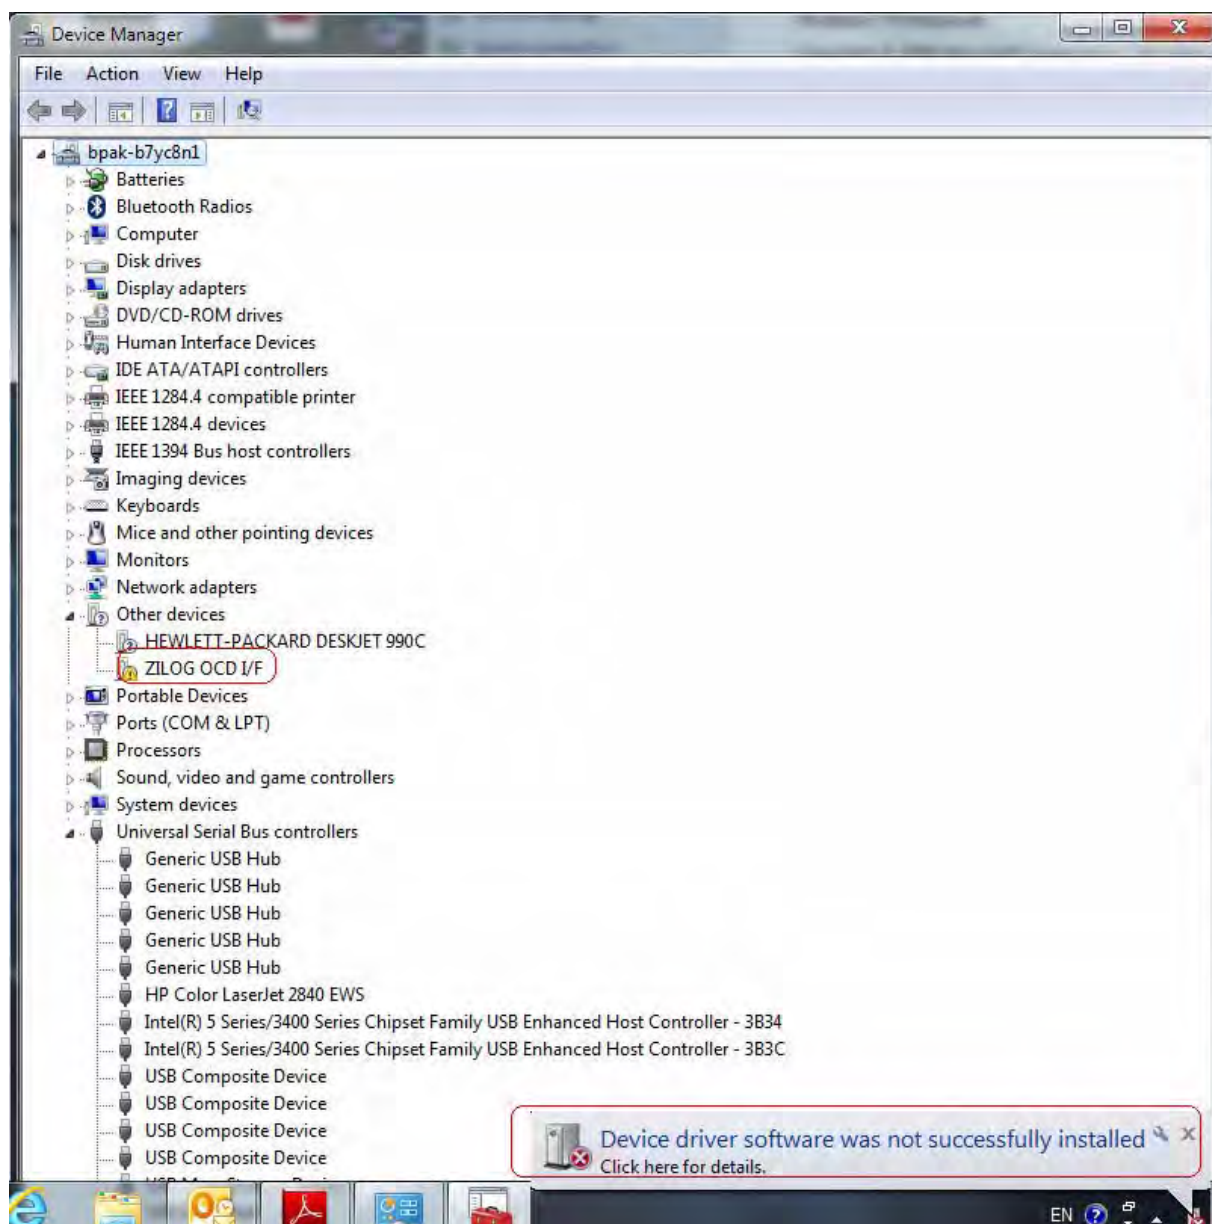
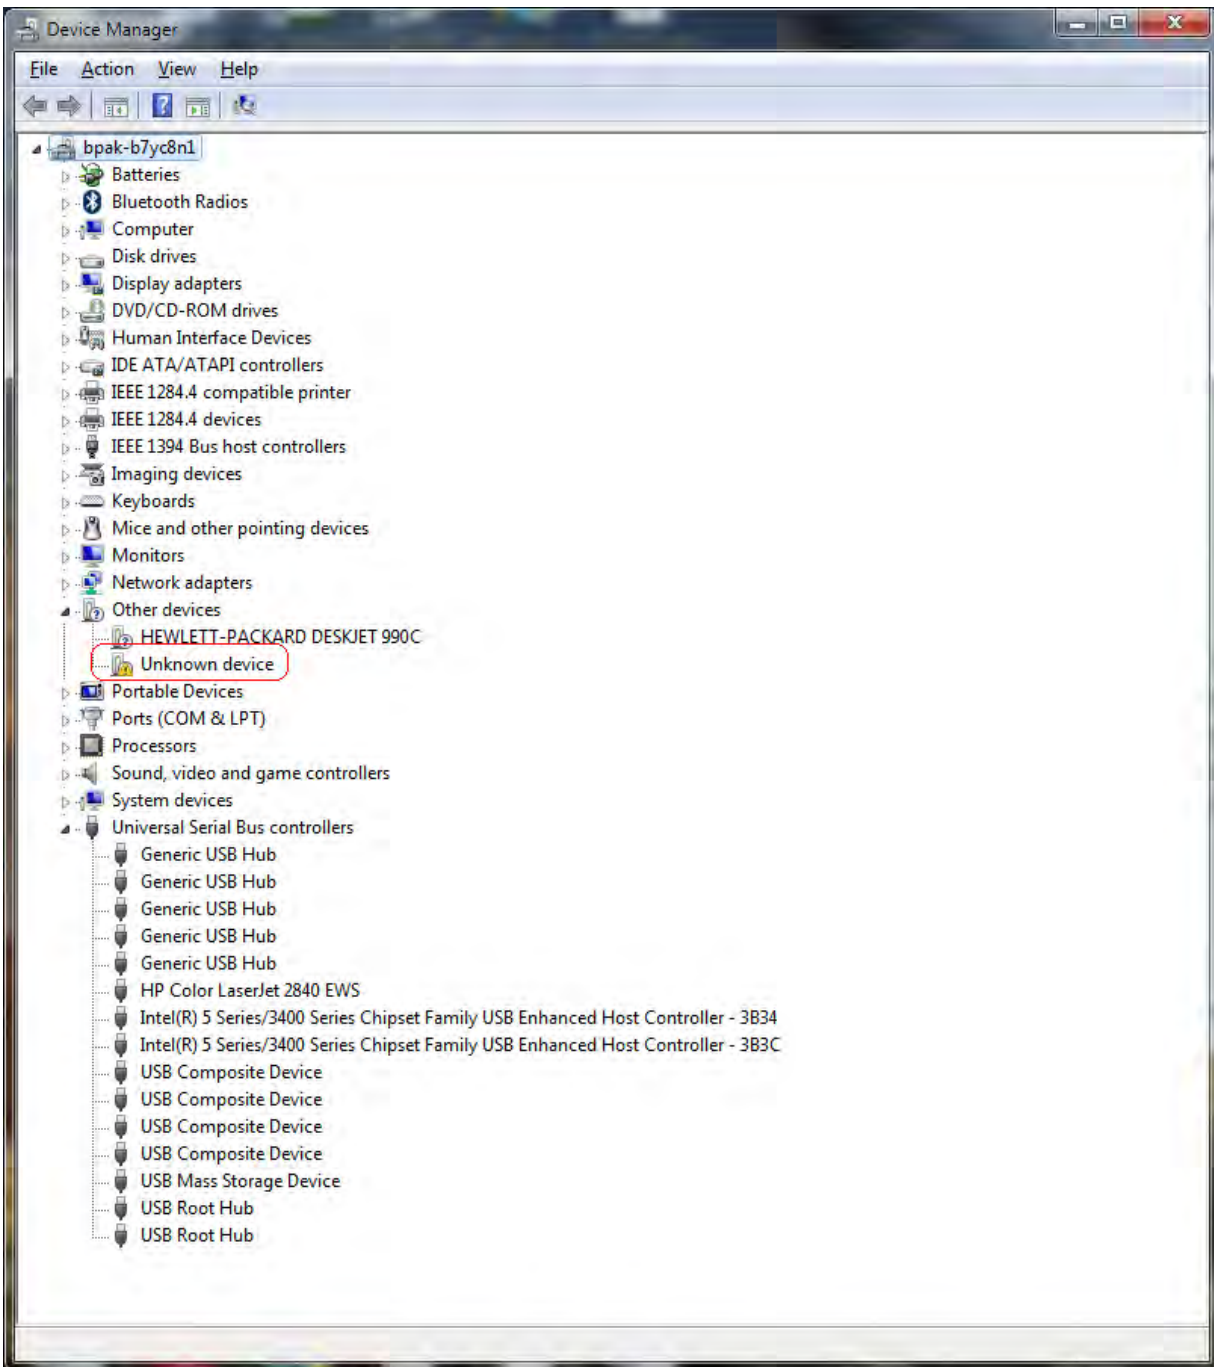

Figure 97. Unsuccessful Installation, Scenario 1
Figure 98. Unsuccessful Installation, Scenario 2
- **Note:** If you should encounter the scenarios shown in Figures 97 or 98, right-click your mouse on **ZILOG OCD I/F** (highlighted in Figure 97) or **Unknown device** (highlighted in Figure 98) and select **Update Drive Software...** Then, follow Steps 5 through 7 in Appendix A on page 79 to complete the driver installation.